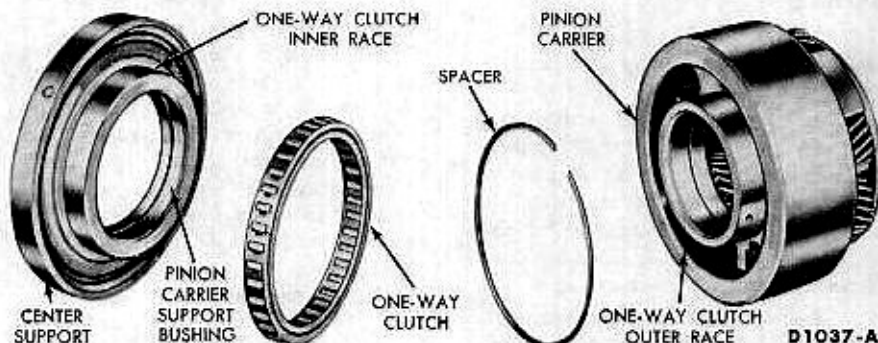

FIG. 10—Pinion Carrier, One-Way Clutch, and Center Support
1. On the pinion carrier, inspect the clutch outer race (Fig. 10) for roughness.